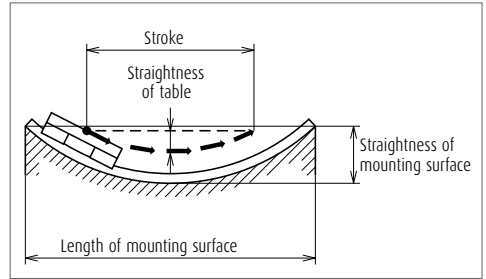

Fig. 10.4
(1) Accuracy of the mounting base of machine
- > However, when two or more slides are assembled to each rail, the table stroke becomes shorter than the mounting surface. This, along with the fact that the mounting error is evenly spread, contributes to a higher table accuracy than the mounting surface accuracy, reducing the error to about 1/3 in average (Fig. 10.4).